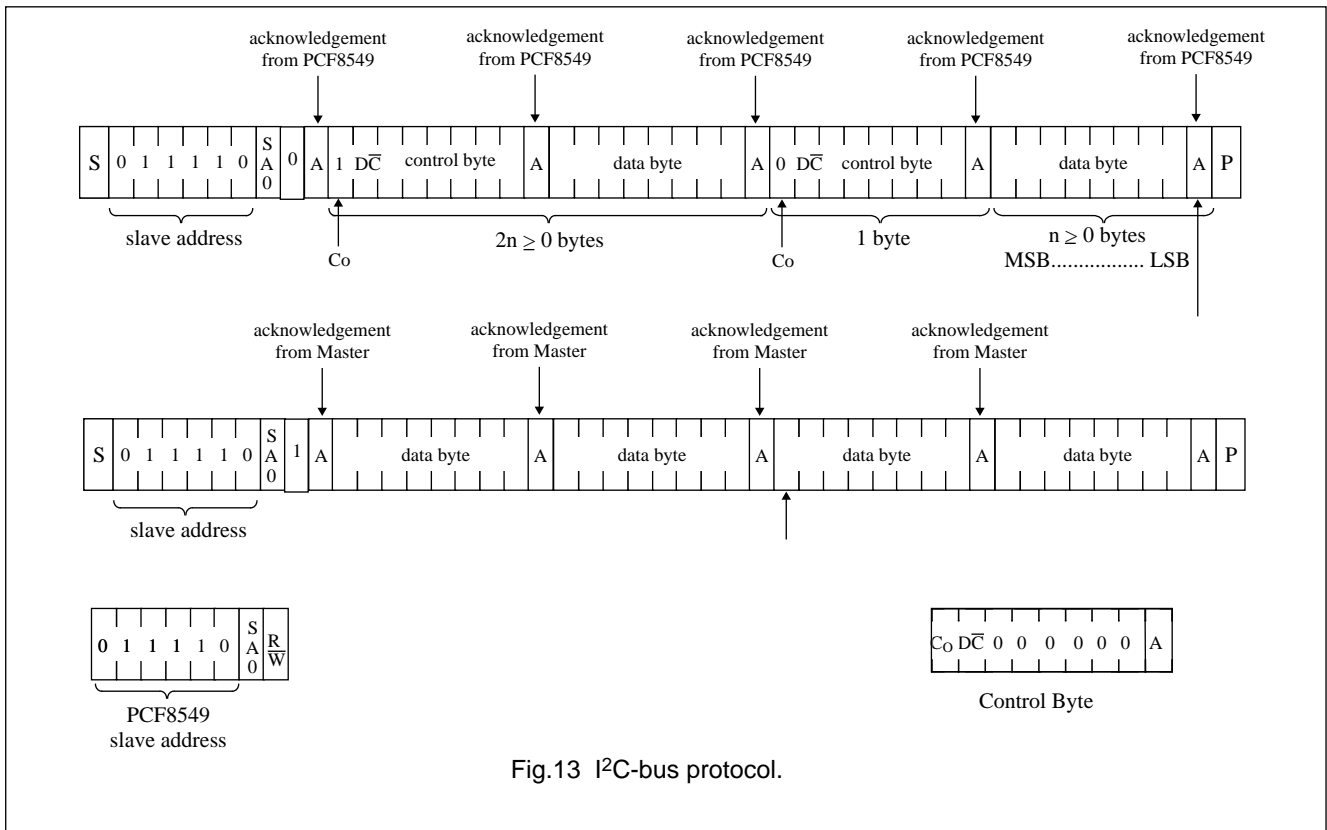

Fig.13 I2C-bus protocol.
The I2C-bus protocol is illustrated in Fig.13.
The sequence is initiated with a START condition (S) from the I2C-bus master which is followed by the slave address. All slaves with the corresponding address acknowledge in parallel, all the others will ignore the I2C-bus transfer. After acknowledgement, one or more command words follow which define the status of the addressed slaves. A command word consists of a control byte, which defines Co and D/C, plus a data byte (see Fig.13 and Table 1).